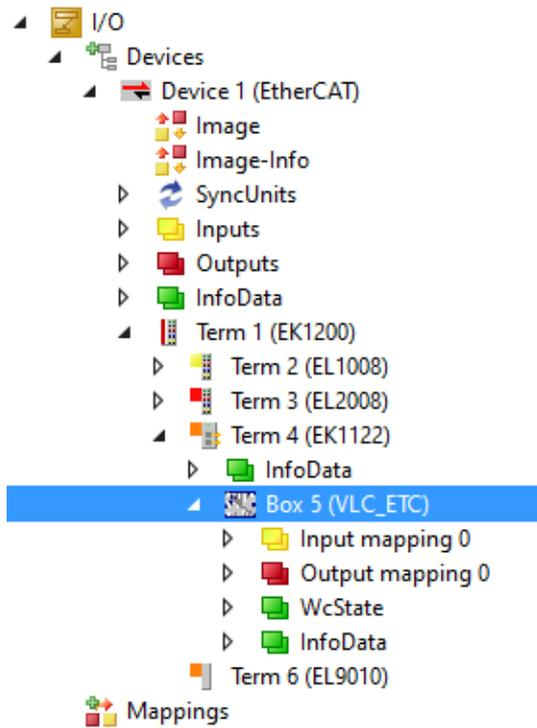

Figure 3.7. VLC-ETC under one of the scanned terminals.
- Another window will appear asking to scan for 'boxes'. Click OK and EtherCAT terminals will appear and VLC-ETC will be under one of them as shown in Figure 3.7 (provided the VLC-ETC is connected to the EtherCAT junction terminal).